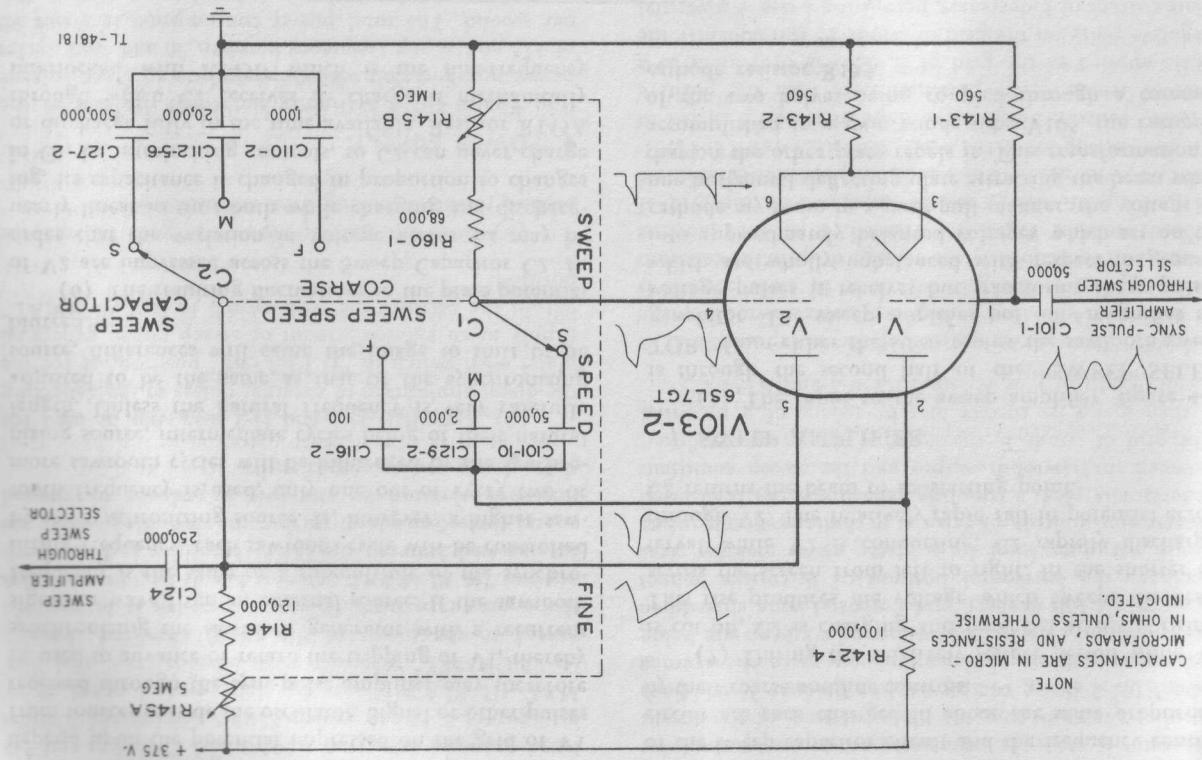

Figure 4-6. Sawtooth Sweep Generator—Functional Schematic
(1) Figure 4-6 is a functional schematic of the sawtooth sweep generator. In this circuit the two triodes V1 and V2 of tube V103-2 form a free-running non-symmetrical multivibrator or relaxation oscillator whose feedback path is through adjustable capacitor C1, actually C101-10, C129-2, or C116-2, and the common cathode resistor R143-2. The periodicity of this oscillator is governed by the capacitance of C1 and the resistance of R160-1 and R145B in series.
(2) To analyze this circuit physically, assume first a negative change in the grid potential of V1. The current through V1 immediately decreases causing an increase in plate potential. A positive impulse is transmitted through coupling capacitor C1 to the grid of V2, immediately increasing its current and dropping its plate potential. The potential of the common cathode rises, reinforcing the effect of the assumed negative change in the grid potential of V1. This action progresses rapidly until the current through V1 is a minimum and through V2 a maximum.
(3) As C1 becomes charged, its current and the grid potential of V2 decrease exponentially. As soon as C1 attains maximum charge, it begins to discharge, reversing the current in R160-1 and driving the grid of V2 negative and below cut-off. The common cathode potential falls, equivalent to a positive impulse on the